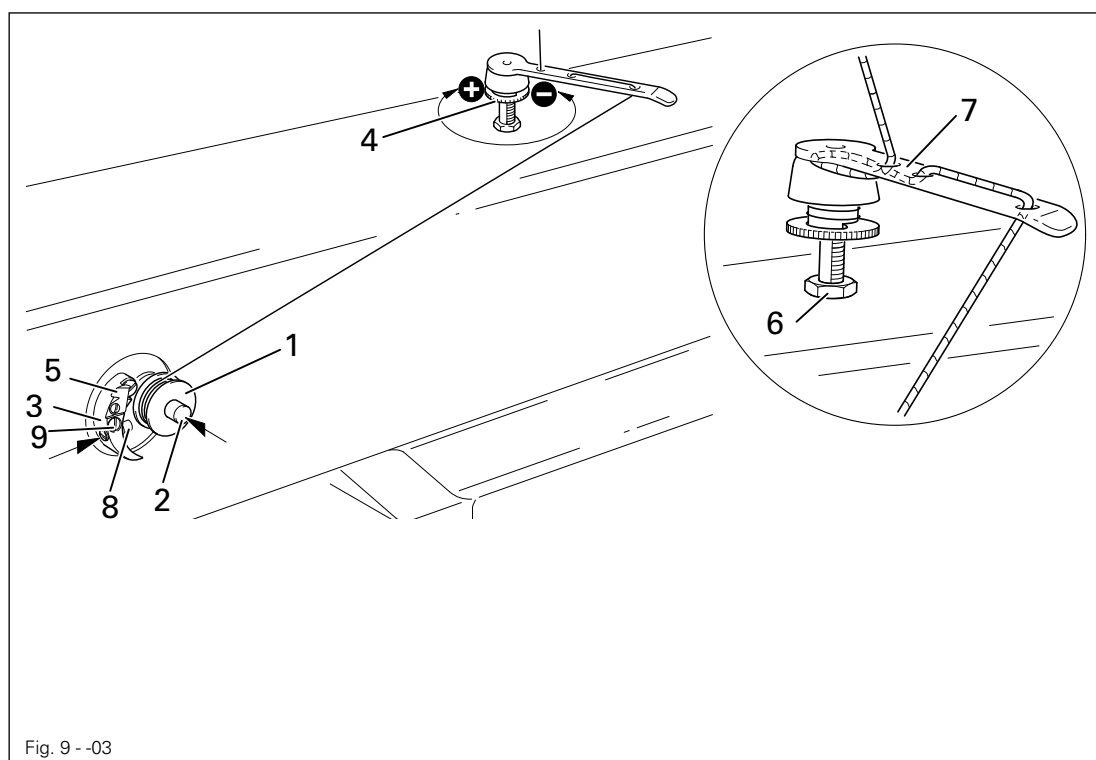

Fig. 9 --03
- Thread in the thread as shown in Fig. 9 - 03 and wind it round the bobbin 1 a few times in an anti-clockwise direction.